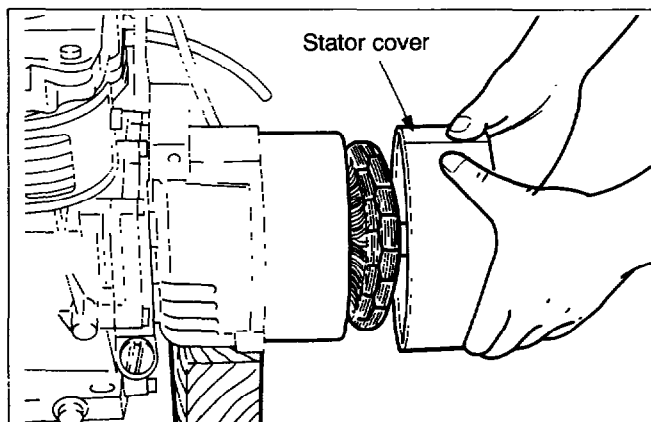
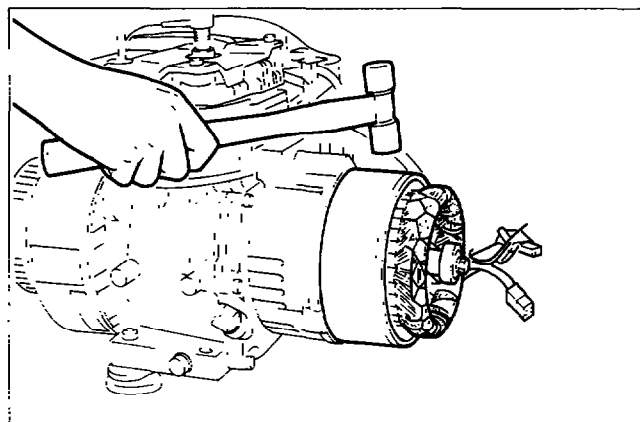

Fig. 10-19
Fig. 10-20
| 12. | Stator | <p>(1) Remove the stator cover. (See Fig. 10-19.)</p> <p>(2) Pull off the stator from the front cover tapping the core with a plastic mallet. (See Fig. 10-20.)</p> | Never tap on the winding and the lead. | Plastic mallet |